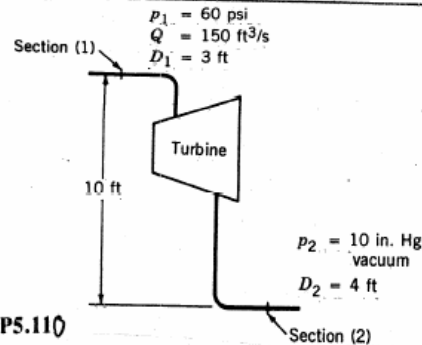

FIGURE P5.110
5.110 Water is supplied at 150 ft³/s and 60 psi to a hydraulic turbine through a 3-ft inside diameter inlet pipe as indicated in Fig. P5.110. The turbine discharge pipe has a 4-ft inside diameter. The static pressure at section (2), 10 ft below the turbine inlet, is 10-in. Hg vacuum. If the turbine develops 2500 hp, determine the power lost between sections (1) and (2).